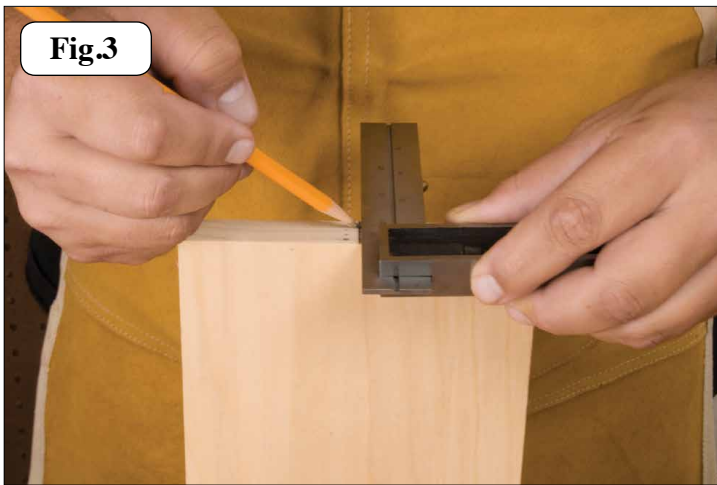
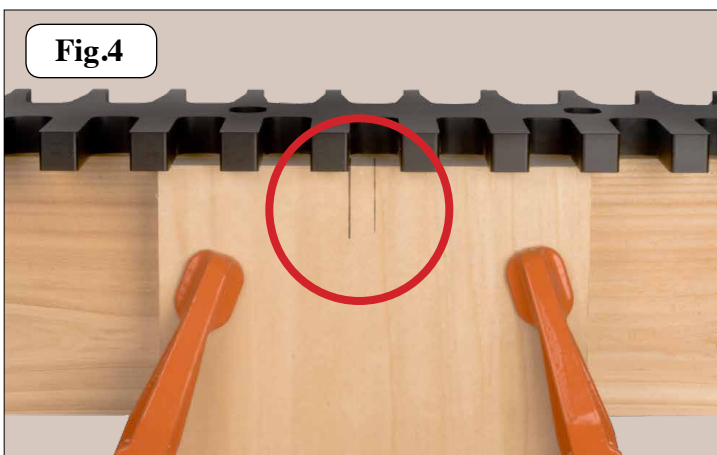

Fig.3
Fig.4
C. Place the mounted dovetail jig (tail side) on the end of stock. Position the jig, so that there are equal distances on either side of the jig. Make sure dovetail jig rest's flat on the tail stock and secure in place with F-clamps or C-clamps. To achieve an exact centered joint, mark the center of your stock, See **Fig. 3**, then measure $7/16''$ to one side of the center mark and scribe a second line with a pencil. Position the inside edge of one of the tail side openings exactly with the second scribed line See **Fig. 4**. Secure in place with F-clamps or C-clamps. This method will give equal spacing of your tails on either side of your stock.